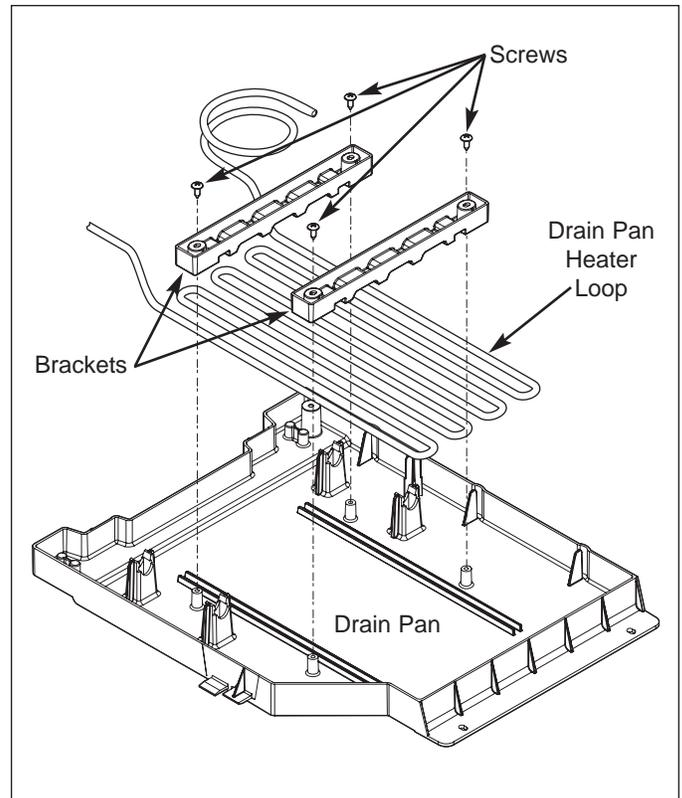

Figure 5-27. Drain Pan Heater Loop Removal
2. Using a short phillips head screwdriver, extract the four screws securing the drain pan heater loop brackets to the drain pan. (See Figure 5-27)